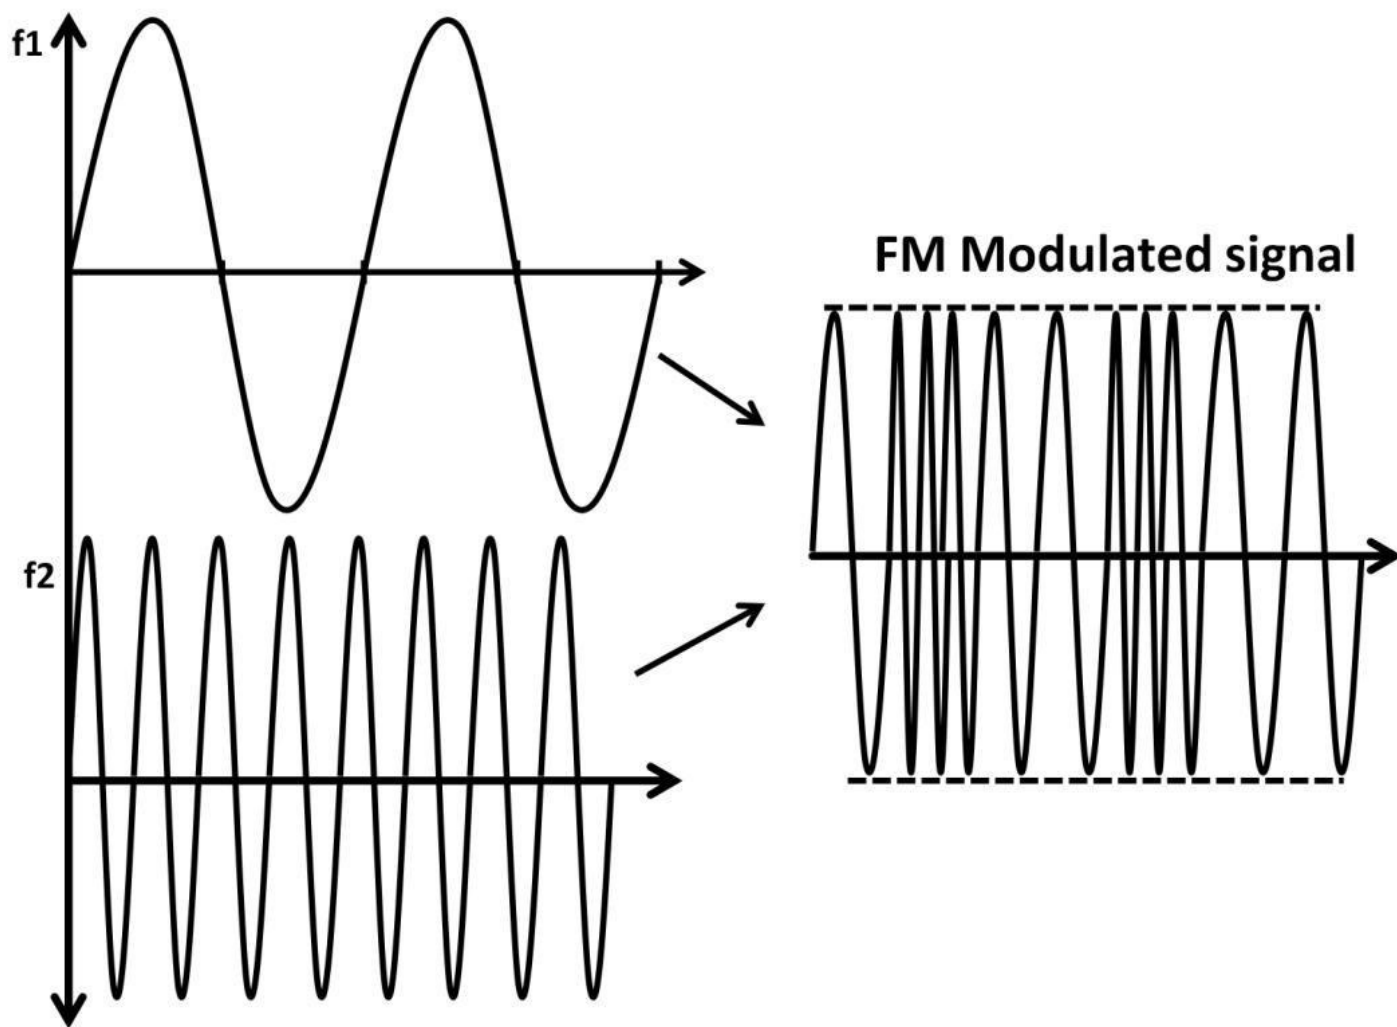

Figure 6.9: FM modulated signal
Frequency modulation (FM) works fundamentally different than AM. FM radio signal allocation in the US ranges from 88 MHz to 108 MHz. Although both AM and FM add audio and carrier signals together before transmitting via the air, unlike AM, FM's modulated signal's amplitude does not change when frequency changes with respect to the audio signal amplitude. This phenomenon was described in figure 6.9. f_1 is the original audio signal adding to the carrier signal (f_2). As the audio frequency (f_1) reaches the peak, the frequency of the FM modulated signal is the highest. When it crosses the zero horizontal axis, it runs at the lowest frequency. It's due to this nature that FM is far superior to AM in terms of signal quality, because the AM amplitude fluctuates with the original signal. These fluctuations greatly contribute to noise. On the contrary, the FM amplitude stays roughly constant, eliminating the majority of noise components. It's for this reason radio stations use FM to broadcast higher-quality music. On the other hand, AM is used mainly for audio (talk shows) broadcast. To achieve unchanged amplitude, FM noise clipper circuit discussed in chapter 3, AC, can be used (see figure 3.44a).